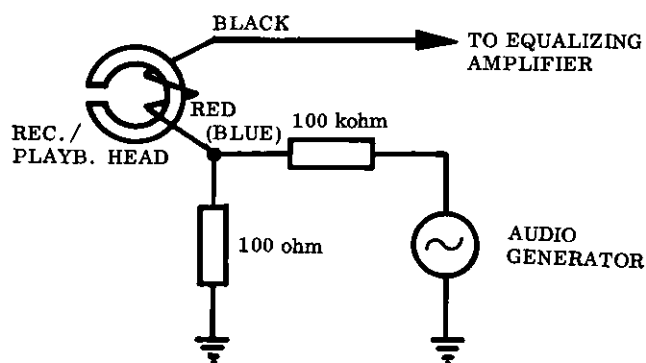

Fig. 5.4 Set-up for verification of playback curves
Connect a 100 ohm resistor in series with upper and lower record/playback heads to ground. (Red and blue wires). Connect the audio generator in series with a 100 kohm resistor to the junction between the 100 ohm resistor and head. See fig. 5.4. Connect a VTVM and the oscilloscope to the output socket PREAMP L (R). Set function selectors in position PLAY. (Stereo playback).